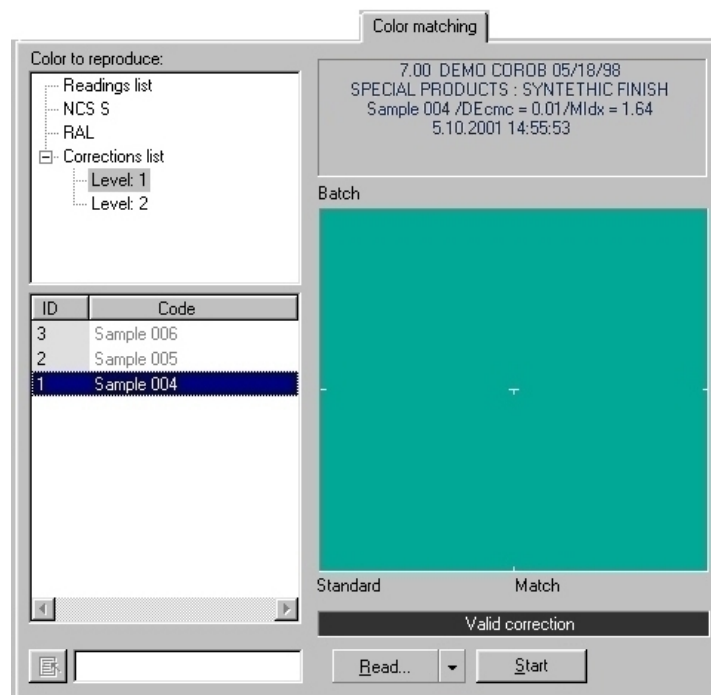

Figure 37
- Click the **Start** button to begin the color matching procedure for correction. The preview of the final color corresponding to the corrected formula is displayed in the Match section (Figure 37).